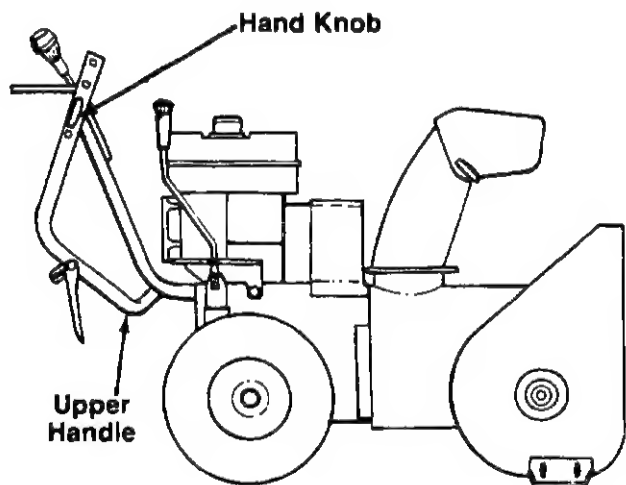

FIGURE 2.
4. Loosen the hand knobs on each side of the unit. See figure 2. Raise the upper handle into operating position. Do not tighten the hand knobs at this time.